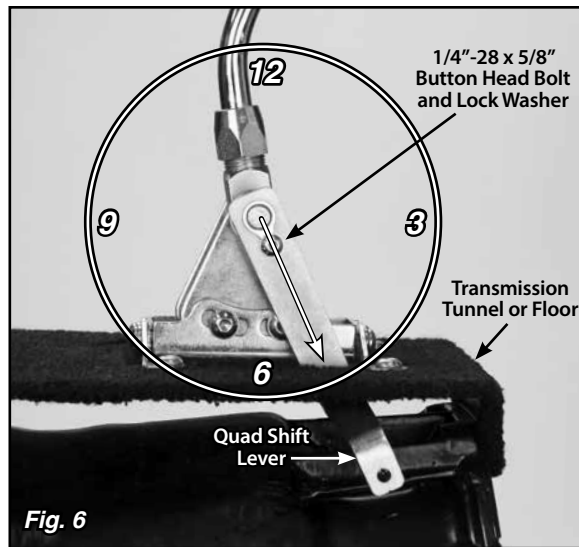

Fig. 6
Step 9: Make sure the shifter lever is in the Park position. Temporarily place the quad shift lever in position on the quad lever bushing as shown in Fig. 6. Check for interference with the driver side rear floor mount tab or the vehicle floor. With the shifter lever in Park, you want the quad shift lever to be as close to the 4:30 - 5:00 position as the floor mount tab will allow, without the quad shift lever touching the floor mount tab or floor.
With the quad shift lever in position on the quad lever bushing, install the 1/4"-28 x 5/8" button head bolt and lock washer into the bushing, and tighten with a 5/32" Allen wrench. Fig. 6